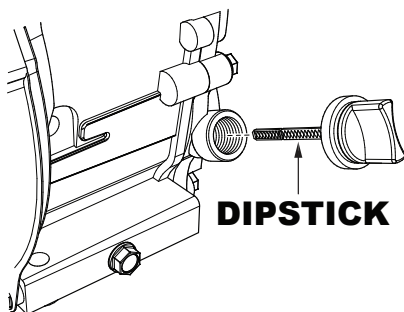

Figure 13. Engine Oil Dipstick
2. Remove the oil dipstick from the engine oil filler hole (Figure 13) and wipe it clean.